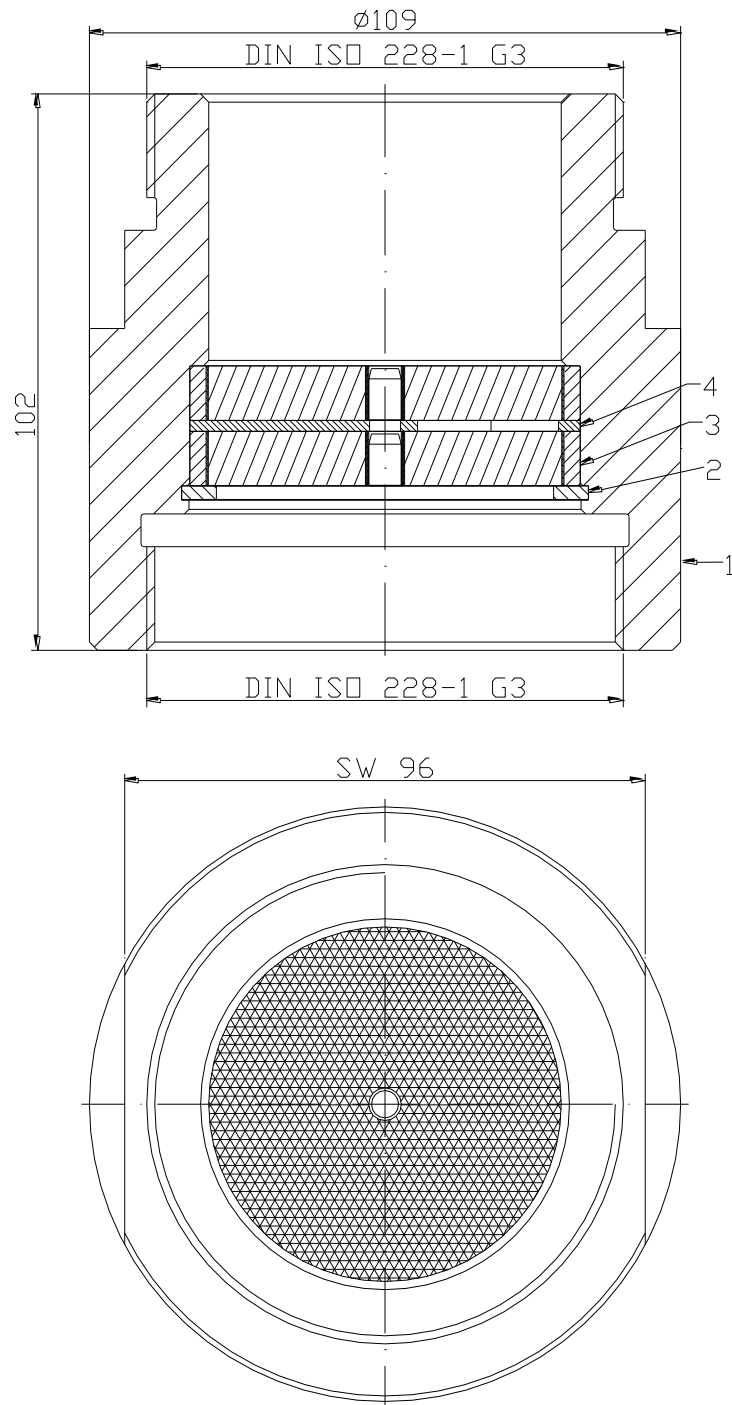

Fig. 2
(See also figure 2)
(see fig.2)
- Spare part no. (Please refer to **fig. 2** for items)